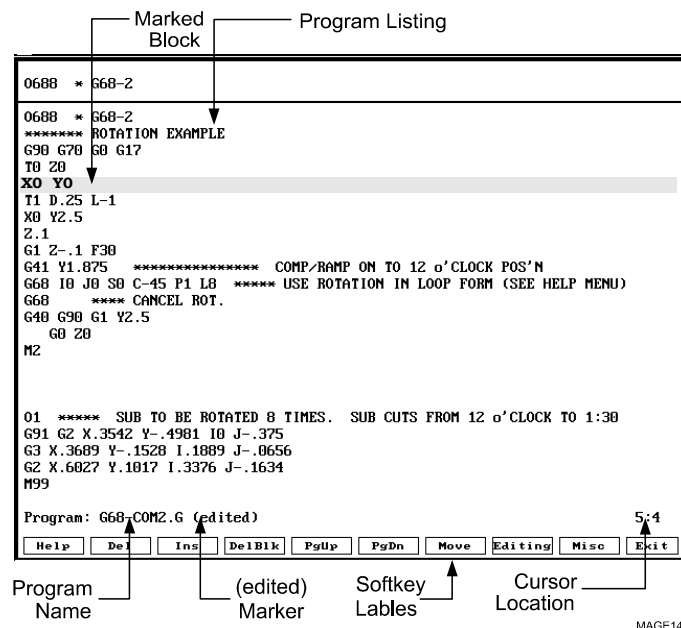

Figure 6-1, Edit Screen
1. With the appropriate program loaded, press **EDIT (F3)**. The Edit Screen activates and **Ins (F3)** highlights. See **Figure 6-1**.